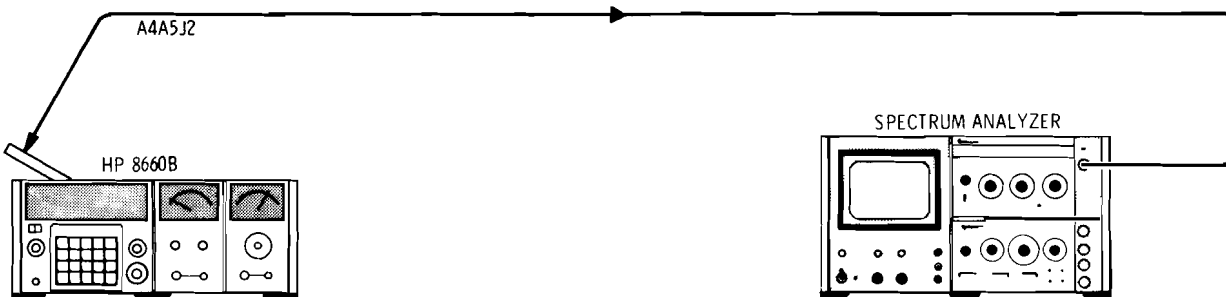

Figure 5-11. Output Amplitude Check
6. Output Frequency and Amplitude Check. (See Figure 5-11).